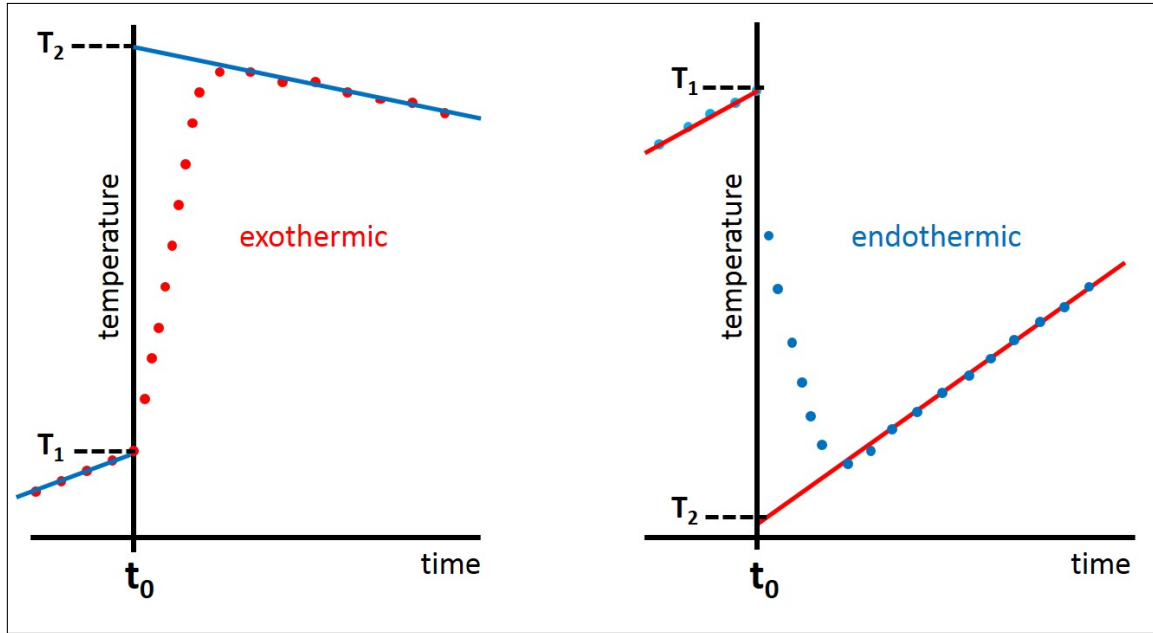

Figure 1: Calorimetric temperature – time curves and their evaluation.
2. The investigated process often does not take place instantaneously, which allows heat to be exchanged with the surrounding (environment), i.e., some of the heat to be determined disappears. This can be avoided either by using – usually expensive – thermal insulation materials and complex technical solutions, or by examining the pre- and post-life of the process. The latter method is illustrated in Fig. 1, where the curve on the left illustrates the measured temperature change of a process involving heat release and the curve on the right illustrates the temperature change of a process involving heat absorption. The process to be tested starts at time t_0 , but the system temperature is recorded long before it. The time between the start of temperature recording and the start of the process is called the pre-period. The start of the main period is t_0 and the main period includes the duration of the complete process studied. During the main period, the temperature change is determined by the heat of the process, but the heat exchange with the environment also begins. In the following post-period, the process, studied, has already taken place, here only the heat exchange with the surrounding determines the change in temperature. While a very sharp boundary can be drawn between the pre- and main periods at t_0 , the transition between the main and post-periods is continuous, as shown in Fig. 1. If the temperature change in the pre-period is approximately linear², extrapolating to t_0 , we can get